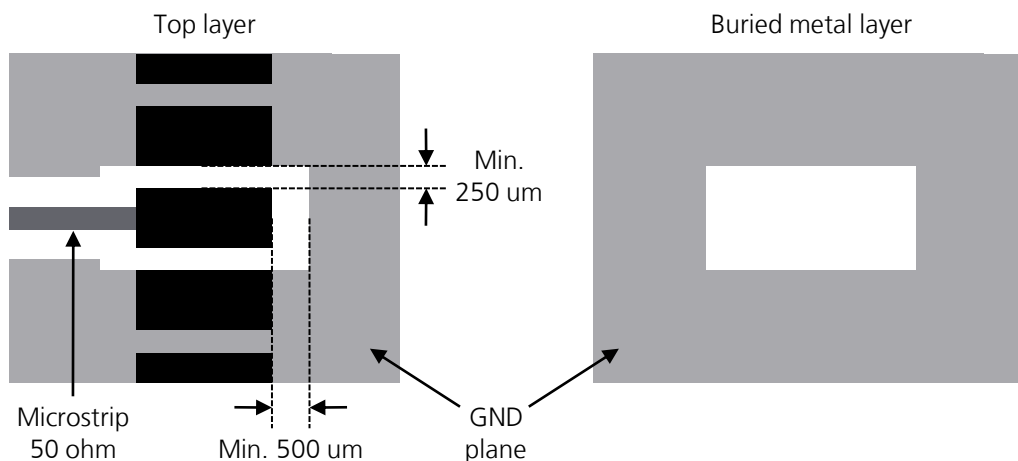

Figure 47: GND keep-out area on the top layer around the ANT pad and on the buried metal layer below the ANT pad
- Increase GND keep-out (i.e. clearance) for **ANT** pad to at least 250 μm up to adjacent pads metal definition and up to 500 μm on the area below the Data Module, as described in Figure 47.
- Add GND keep-out (i.e. clearance) on buried metal layers below **ANT** pad and below any other pad of component present on the RF line, if top-layer to buried layer dielectric thickness is below 200 μm , to reduce parasitic capacitance to ground (see Figure 47 for the description keep-out area below **ANT** pad)